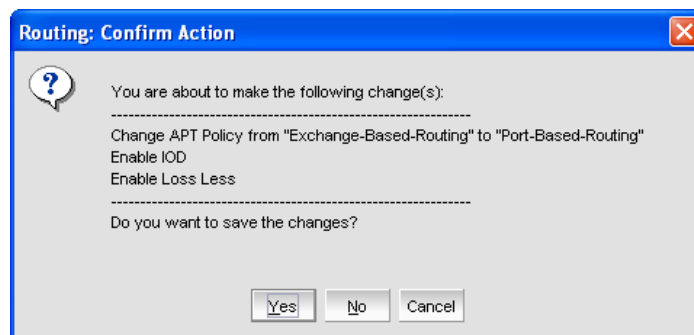

Figure 8-40 Confirm changes
12. Read the warning message, as shown in Figure 8-40, and click **Yes** to confirm the action.